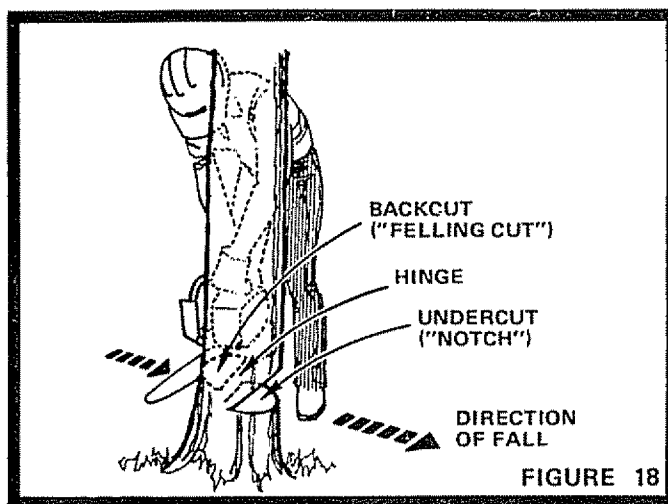

FIGURE 18
- Undercut ("notch") the tree on the side of natural fall (Fig. 18).
- Backcut ("felling cut") the tree opposite the notch (Fig. 18).